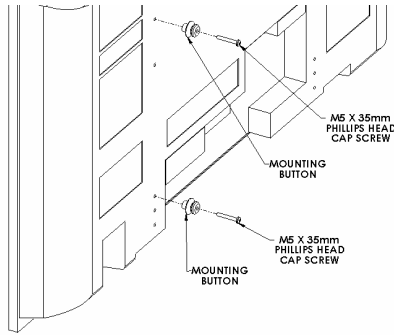
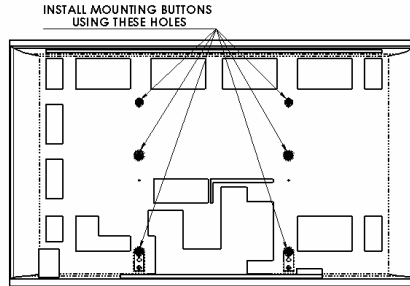

Figure 10
Figure 11
6. Using short M5 screws, install mounting buttons on back of display (See Figure 10 & Figure 11).